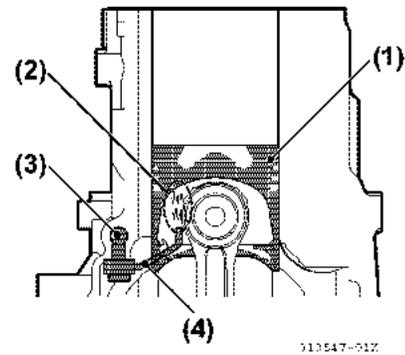

Figure 8-15
- Check the nozzle end hole (diameter 1.8 mm [0.071 in.]) for dust or other foreign matter (**Figure 8-15**).